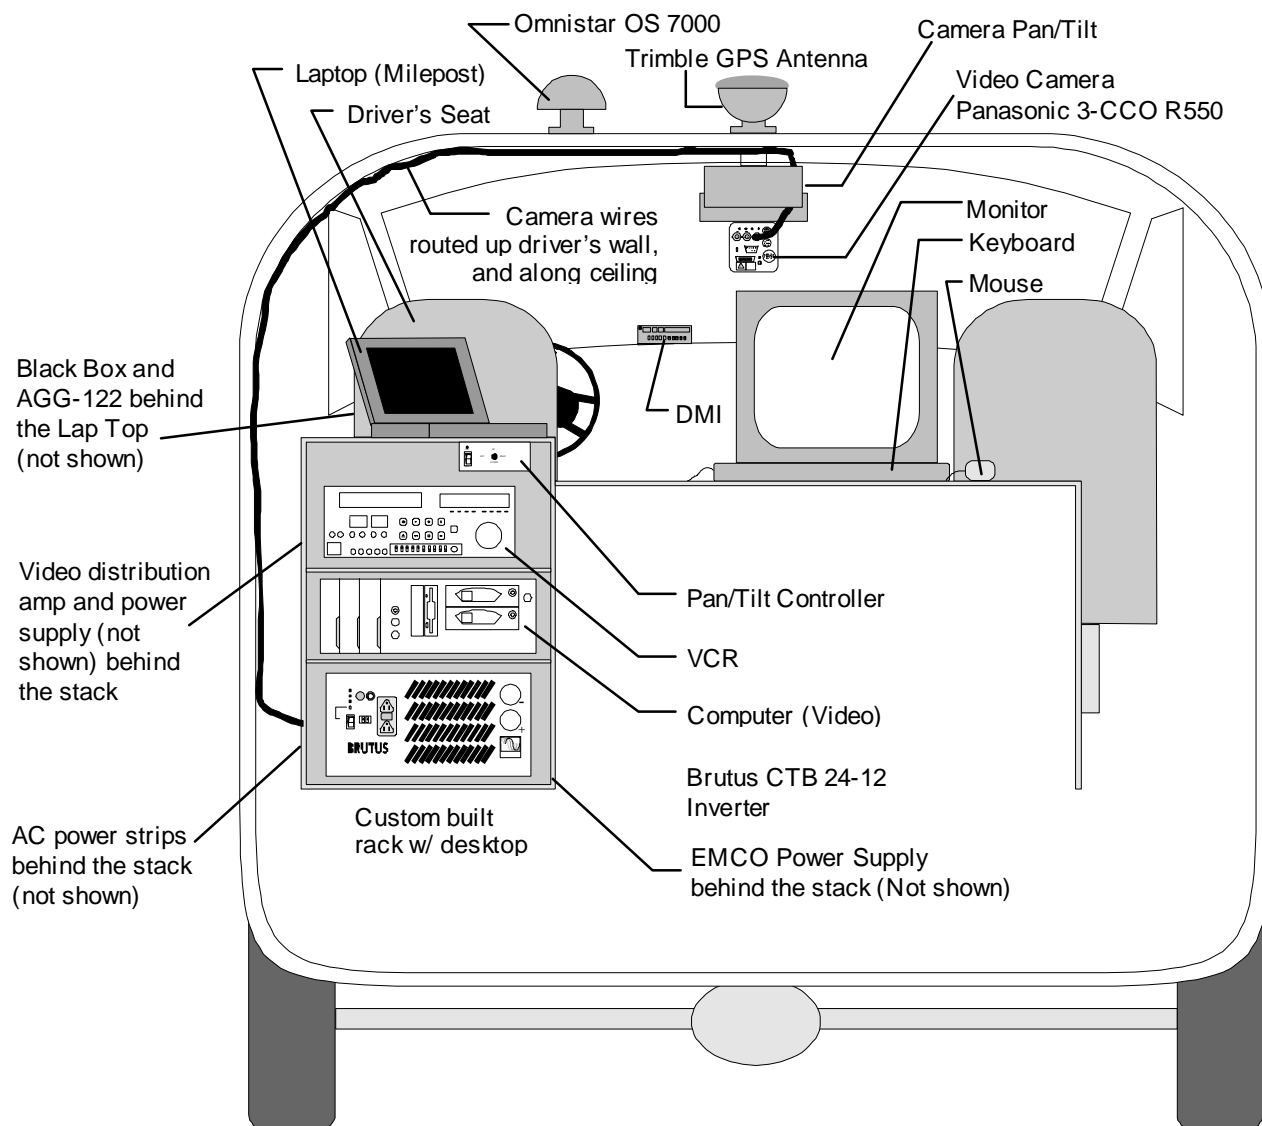

Figure 1
See **Figure 1** for a schematic representation of all major system components that make up the video van.
It may also be necessary to experiment with the placement and wiring of the equipment before committing to a particular design. While experimenting, check over the parts list and decide on specific equipment needs, cord lengths, etc. Avoid locating equipment near fans or motors, also in hot or damp areas as well. The stack of equipment in the Video Van is located behind the driver's seat under the left hand side of the desktop. The video distribution amplifier and Emco power supply are located on the back side of the "stack." Consequently these items have been noted, but not shown in Figure 1, however they are relatively small and can be easily positioned. With most of the equipment located in one area, space is conserved and the wiring is simplified.
18. Route the 15-foot RCA to BNC patch cord up the wall, behind the driver’s seat, and along the ceiling to the camera (see **Figure 1**).